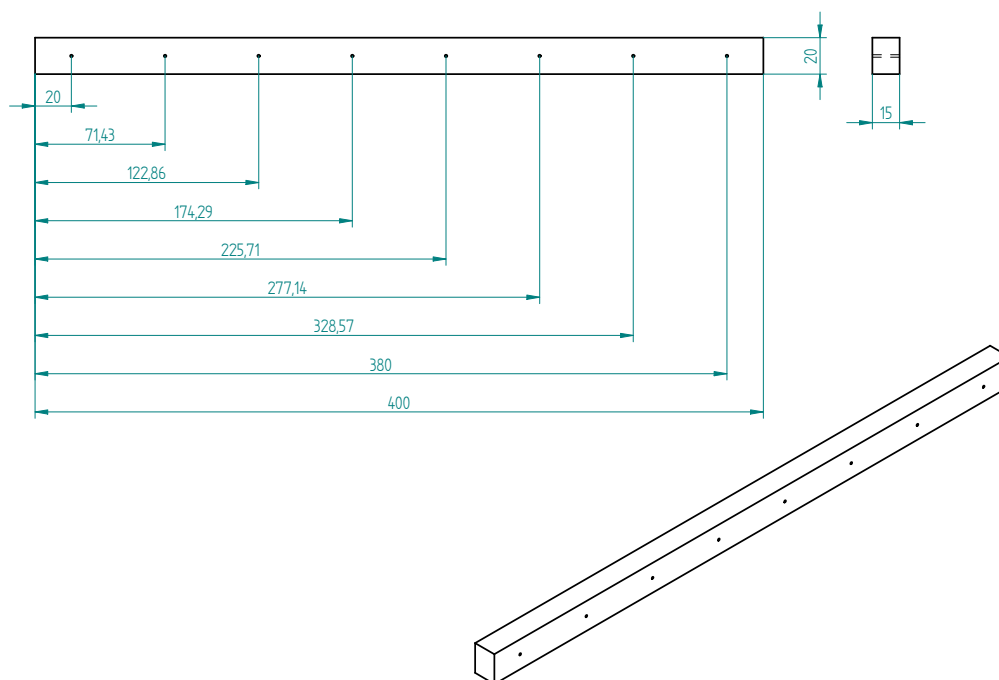

Figure A.2: Shaped part : **guide** for **perpendiculator** tool
2. ask at the carpentry to cut it at the good length (see the length on the figure A.2, page 122) ;
3. drill the holes with diameter 1.4mm (see figure A.2, page 122 for the positions).
Drawing See figure A.2, page 122